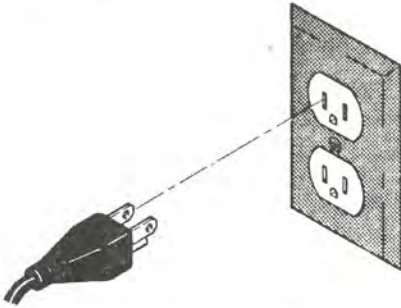

Figure 1. Use a three-prong plug with a grounding blade in a three-hole grounded receptacle.
- The plug on the Shopsmith Mark V and the plugs supplied with the power stand motors all have three prongs, as shown in Figure 1. The receptacle should have three corresponding holes.